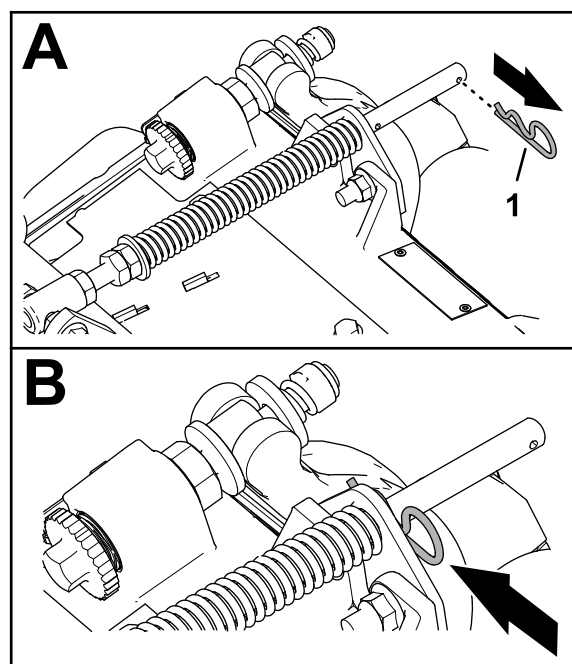

Figure 16
1. If the hairpin is installed in the rear hole of the compensation-spring rod—remove the hairpin and insert it in the hole next to the bracket (Figure 16).